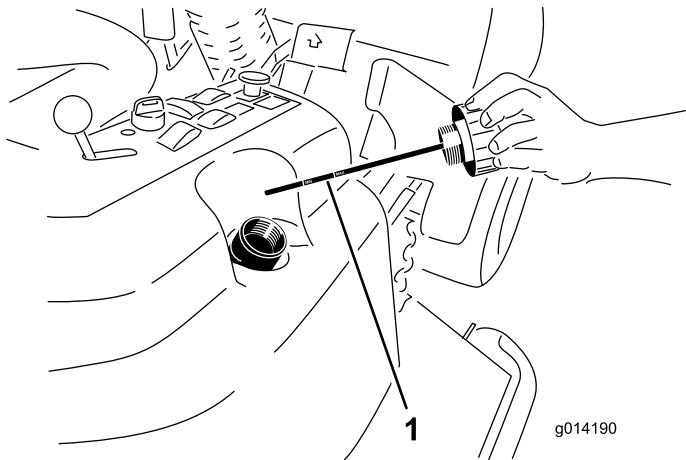

Figure 42
2. Remove the hydraulic fill cap (Figure 42) from filler neck.
3. Remove the dipstick and wipe it with a clean rag (Figure 42).
4. Screw the dipstick all the way into the filler neck; then remove it and check level of fluid (Figure 42).